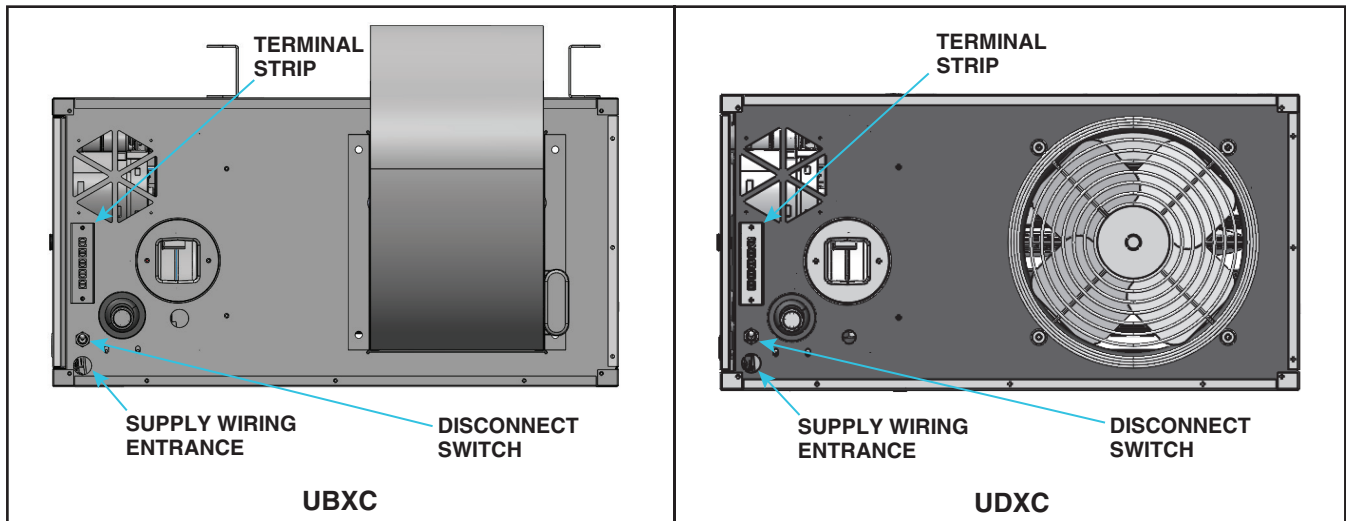

Figure 17. Supply Wiring Entrance and Control Connection Terminal Strip
- All units have a built-in disconnect switch (see Figure 17).
- The supply wiring enters at the rear of the heater as shown in Figure 17 and connects to the disconnect toggle switch.
- Make thermostat connections at the terminal strip on the back of the heater (see Figure 17). The strip has five terminals: C, R, G, W1, and W2. Refer to the wiring diagram provided with the heater. Wires from the terminal strip are factory-wired to the circuit board. Ensure that if there is a heat anticipator setting on the thermostat, it is set at 0.6 amps or in accordance with the amperage value noted on the heater wiring diagram.